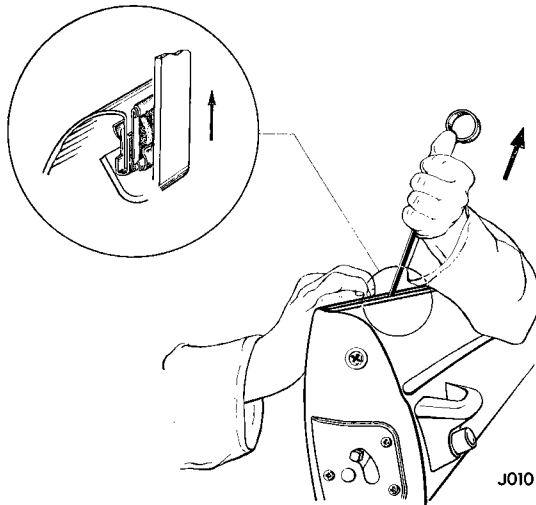

Fig. 73. Fitting weatherstrip
- (a) The inner weatherstrip (85) can be refitted with the door glass in the normal down position.
- (b) To refit the outer weatherstrip (84) remove the stiffener bracket (54) from the door inner panel and lower the door glass as far as possible. The stiffener bracket is retained by two cross/recess screws, located below the bracket on the underside of the door.
- (c) Holding the weatherstrip in position locate the spring clip over the edge of the door panel and weatherstrip. Using the hooked tool shown in Fig. 73 pull the clip firmly onto the door flange and repeat with the remaining clips. The hooked tool may be used to fit any clip which requires renewing.